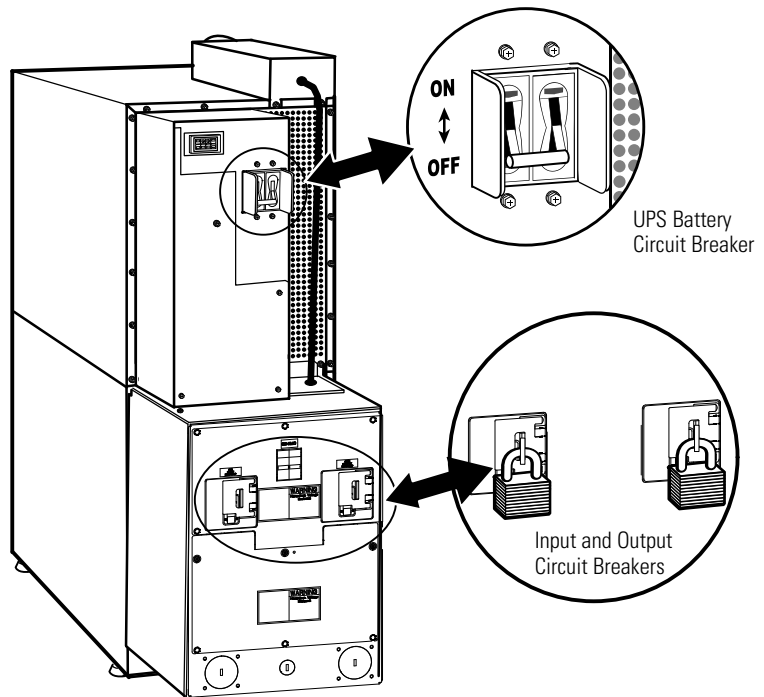

Figure 24. UPS Rear View
1. Verify that the input, output, and battery circuit breakers are in the OFF position (see Figure 24).